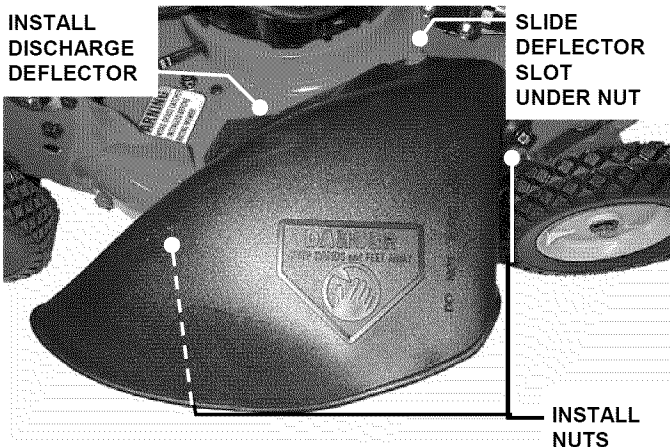

FIGURE 19
- C. Install discharge deflector and secure to deck using hardware just removed in Step A. Slot in front edge of discharge deflector must be under nut as shown and both bolts protruding through holes in the side of the deflector. Secure nuts to the side of deflector. Tighten nuts securely. See Figure 19.